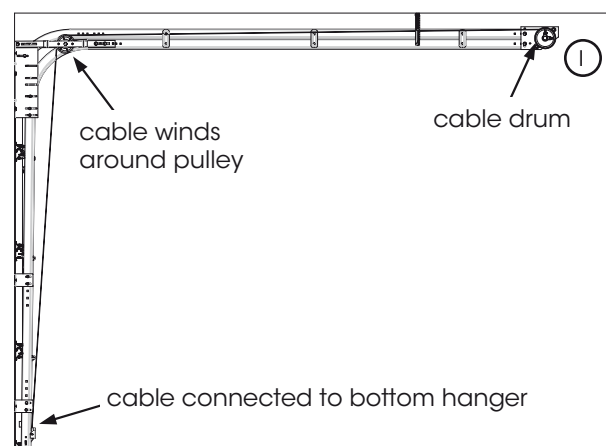

Fig: 5.1.5
- Thread the lifting cable around the sheave pulley wheel and over to the rear cable drums. Fig 5.1.5.
- Attach the lifting cable to the cable drum (I) by slipping the cable into the slot on the outside groove. (the ferrule will prevent the cable from coming out).